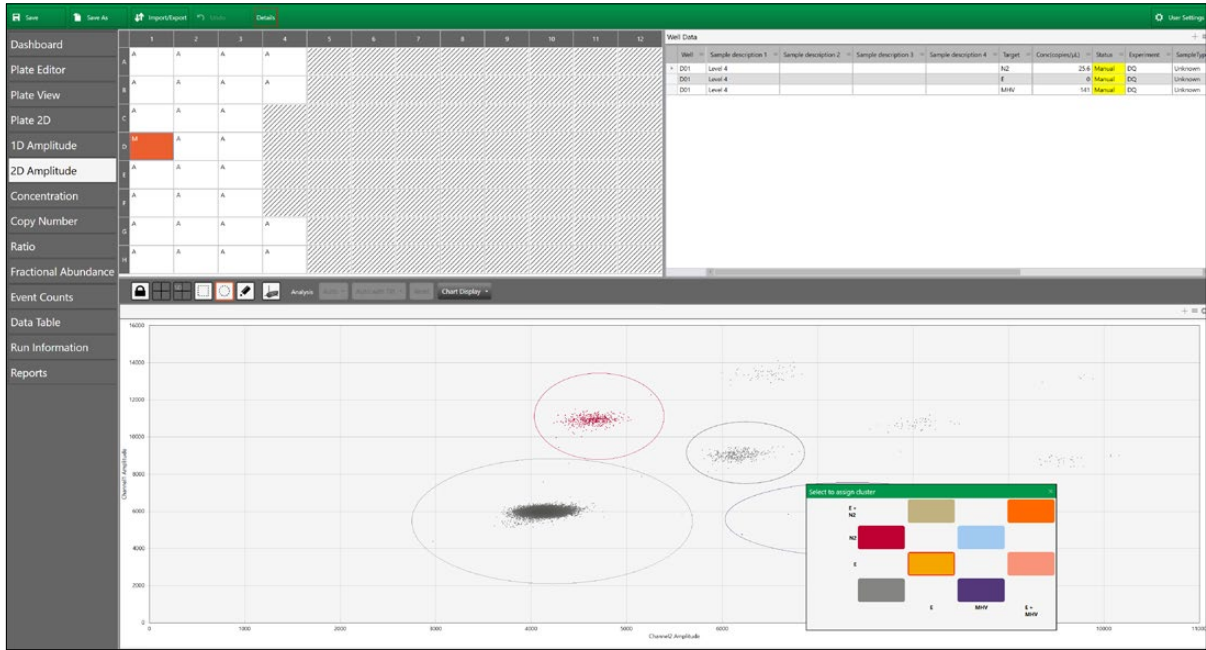

Fig. 15. E single-positive cluster.
- The cluster at a 45° angle from the triple-negative corresponds to **E** (double-positive, FAM and HEX channels) (Figure 15).